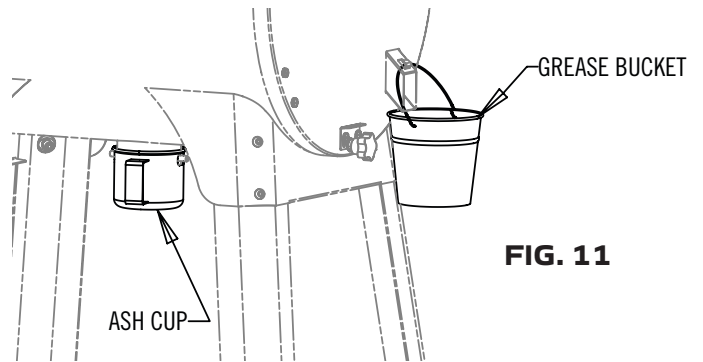

FIG. 11
1. Hang grease bucket from tube as shown in Fig 11.
1. Install Ash Cup as shown in Fig 11. Never use grill without Ash Cup in place.